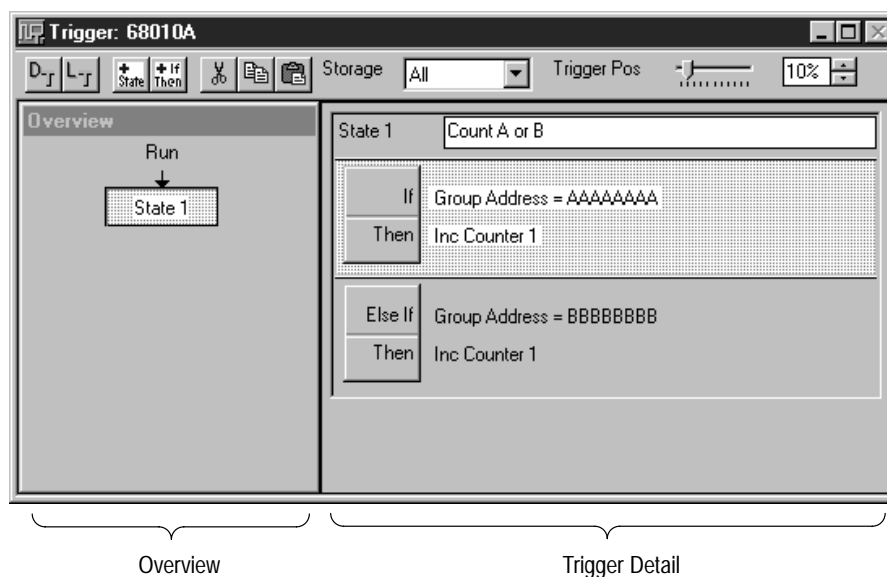

Figure 3–11: Trigger window structure
**Overview.** The Overview portion of the Trigger window shows the relationship of the states. See Figure 3–12. This example shows a branch occurring in State 2. This example also shows that a trigger (note the trigger indicator) occurs in State 2 and an Arm occurs.